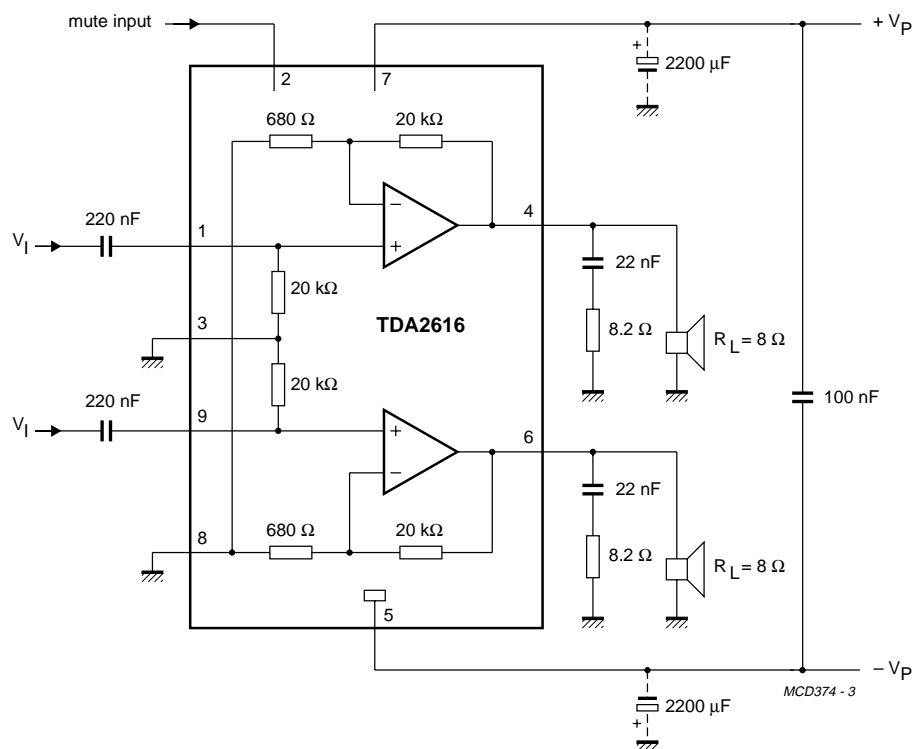

Fig.4 Test and application circuit with symmetrical power supply.
- $V_{\text{P}} = \pm 16 \text{ V}$; $R_{\text{L}} = 8 \Omega$; $T_{\text{amb}} = 25 \text{ }^\circ\text{C}$; $f = 1 \text{ kHz}$; symmetrical power supply $I_{\text{MUTE}} < 30 \mu\text{A}$. See Fig.4
- $\pm V_{\text{P}} = 4 \text{ V}$; $R_{\text{L}} = 8 \Omega$; $T_{\text{amb}} = 25 \text{ }^\circ\text{C}$; $f = 1 \text{ kHz}$; symmetrical power supply. See Fig.4